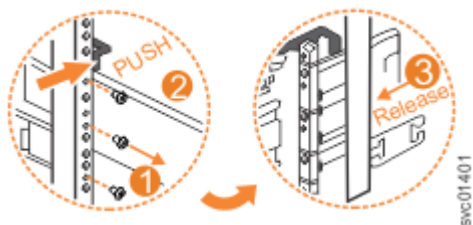

Figure 122. Remove the rail assembly from the rear frame bracket
3. Remove the two screws that attach the inner rail section to the rear bracket, as shown in Figure 122 on page 108.
4. Pull the rail forward, away from the rear bracket, as shown in Figure 122 on page 108.